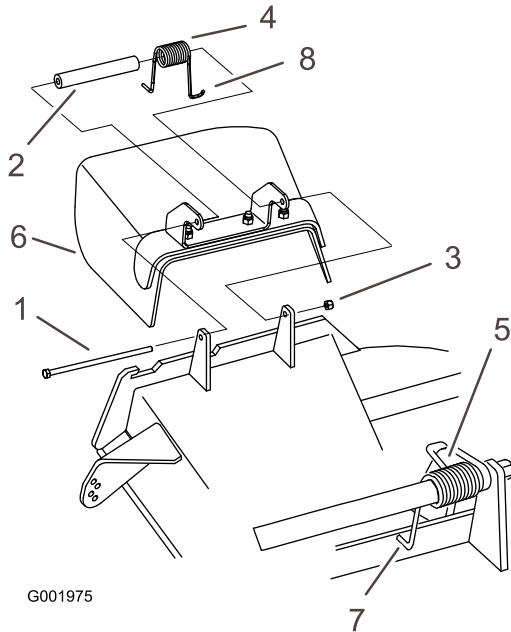

Figure 89
1. Remove the locknut, bolt, spring, and spacer holding the deflector to the pivot brackets (Figure 89).
Note: Make sure that 1 J-hook end of spring is installed behind deck edge before installing the bolt as shown in Figure 89.
6. Place 1 J-hook end of the spring around the grass deflector (Figure 89).